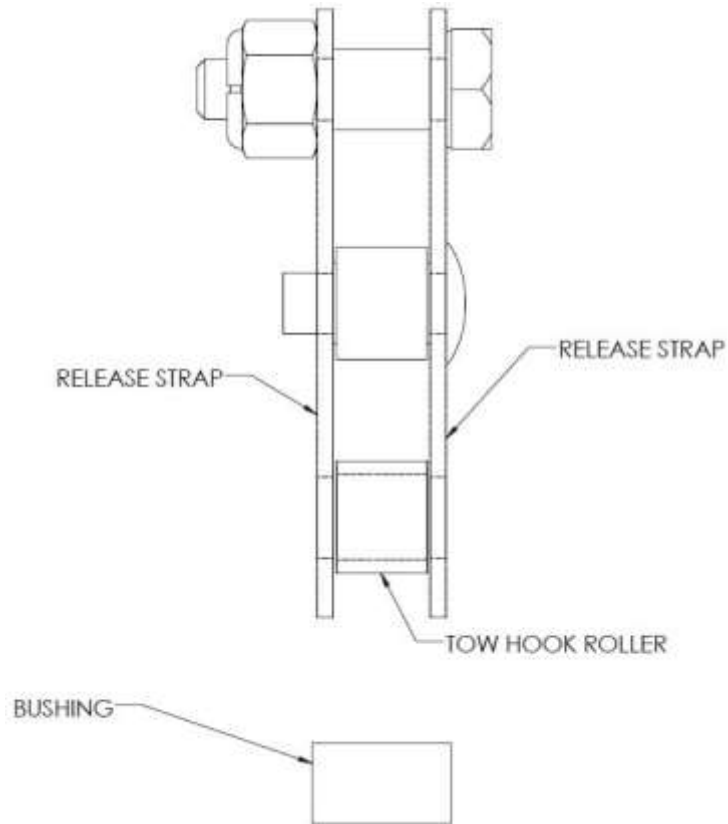

Figure 6.1: Release Subassembly with Tow Hook Roller in place.
- (1) If any part of the Release Subassembly has been cracked or damaged, the Tow Hook Assembly must be removed from service until a replacement Subassembly can be purchased from Fliegen Works Inc. Do not attempt to repair the Release Subassembly in any way.
- (2) Remove the AN3-7A bolt and MS21044N3 locknut securing the Release Subassembly to the Tow Hook Assembly.
- (3) Remove the damaged Release Subassembly from the Tow Hook Assembly.
- (4) Insert the new Tow Hook Roller between the two Release Straps of the new Release Subassembly. Refer to Figure 6.1 for clarification. Ensure the Release Straps holes are concentric with the hole in the Tow Hook Roller.